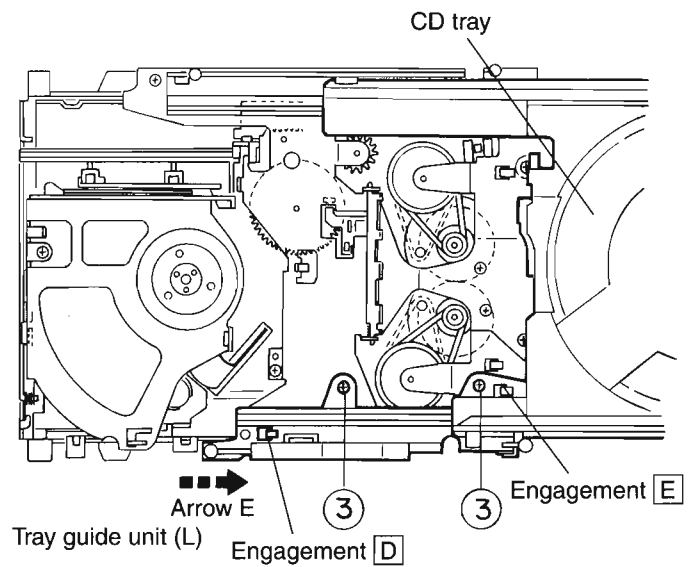

Fig. 7
3. Remove the two screws ③ retaining the tray guide (L) unit (see Fig. 7).